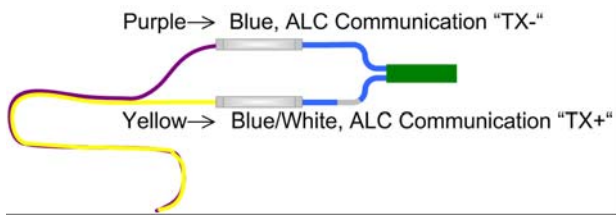

Figure 5. ALC Communication Connections
Step 7: Connect the ALC communication conductors with the included splice connectors. The Switch's purple TX- lead should be connected to communication cable's blue conductor and the Switch's yellow TX+ lead should be connected to communication cable's blue/white conductor as shown in Figure 5.